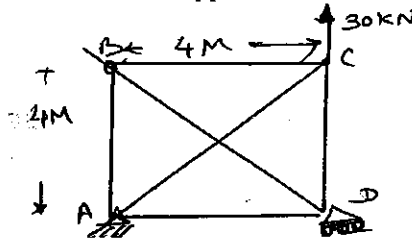

Fig.Q5(b)
b. Analyze the truss shown in Fig.Q5(b) by stiffness method. "A" = hinge support, "D" = Roller support